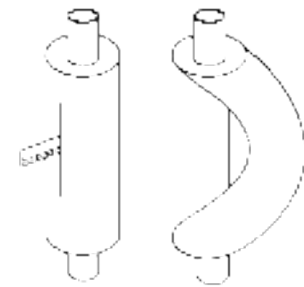

Fig.4.10
- (1) Reshape the pipe by hand. Be careful not to damage the pipe.
- (2) Do not bend the pipe over 90°.
- (3) If pipe is repeatedly bent or stretched, it will get hard and difficult to bend and stretch again. Therefore, do not bend or stretch the bend for over 3 times.
- (4) In case that direct bending will open cracks to the pipe, first use sharp cutter to cut the insulating layer, as shown in Fig.4.10. Do not bend the pipe until it is exposed. When bending is done, wrap the pipe with insulating layer and then secure it with adhesive tape.